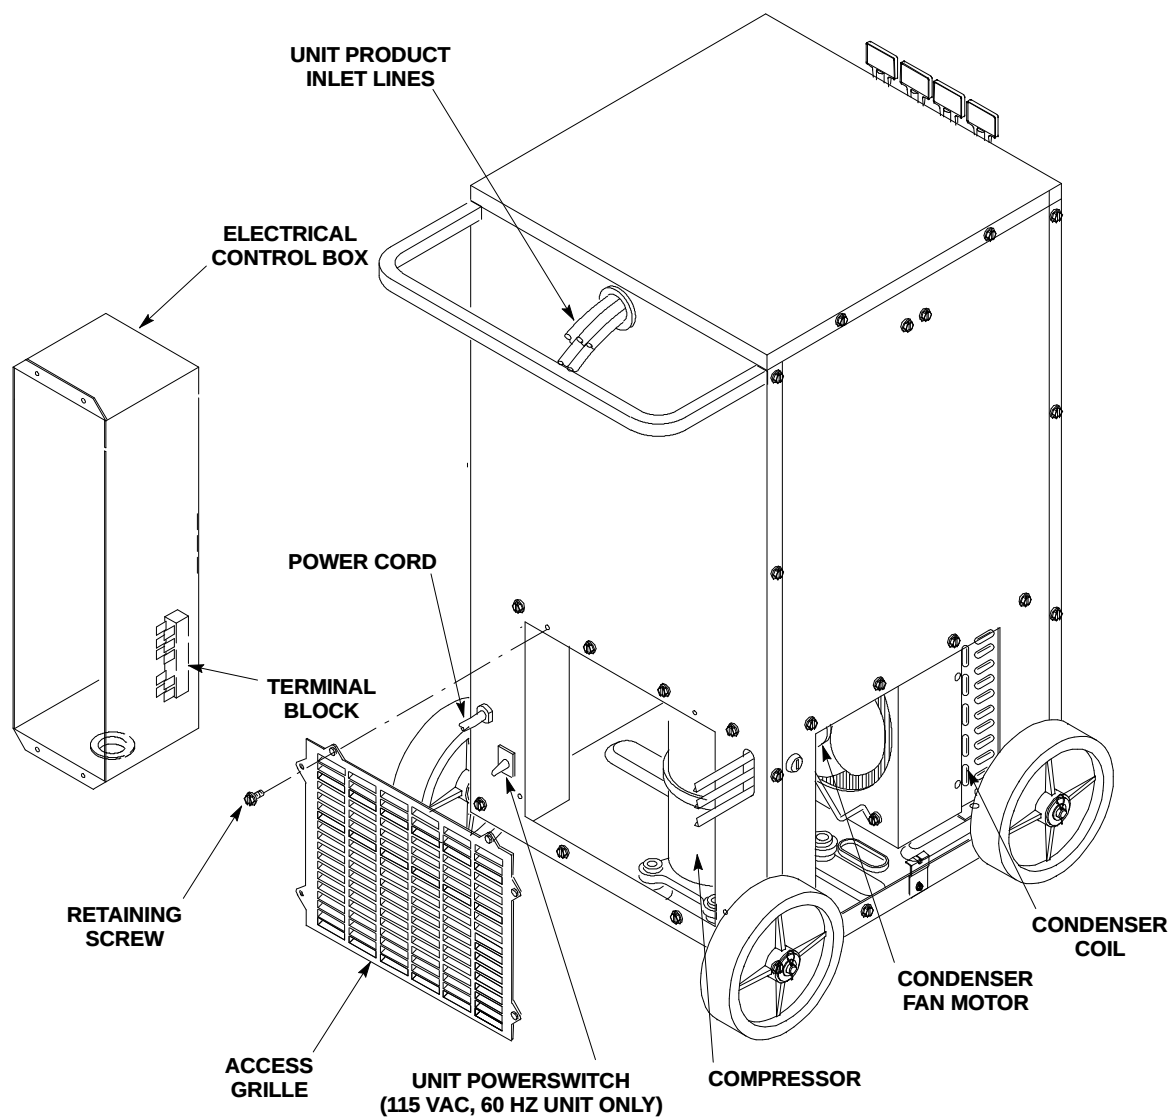

FIGURE 3. PARTS IDENTIFICATION (FOUR-FLAVOR UNIT SHOWN)
1. Check Unit condenser coil (see Figure 3) for accumulation of dust, lint, or grease and if necessary, clean the coil as instructed. Restriction of air flow through the condenser coil will decrease cooling efficiency of the Unit.
(see Figure 3)